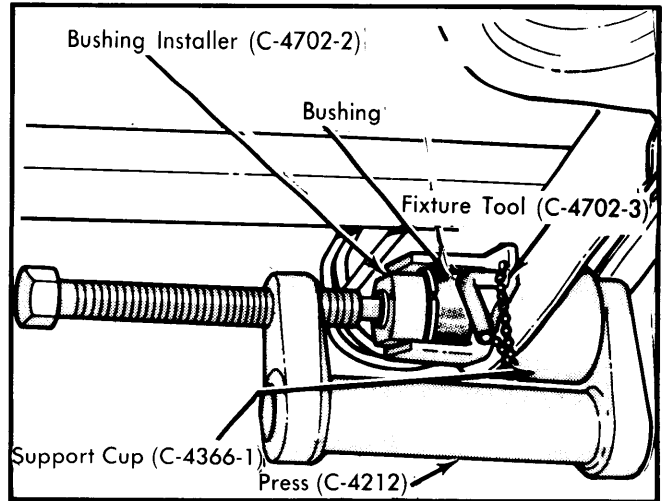

Fig. 4 Installing Pivot Bushing
2) Align bushing to tool flats and arm cavity. Tap bushing slightly to hold in position. Assemble installer tool (C-4702-3) onto press (C-4212) and support cup (C-4366-1). Position assembly as shown in Fig. 4, and press bushing fully into fixture tool. Repeat procedure on opposite side.